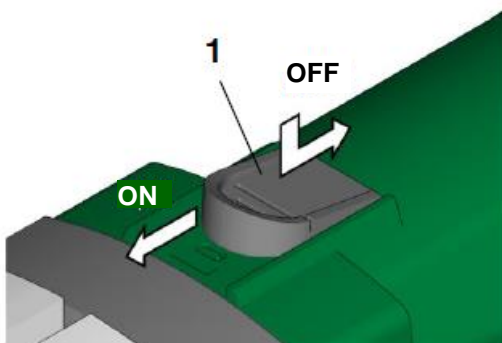

Fig. 6 Switching on/off MB 20/2
- To start the machine, slide the ON switch (1) towards the shaft connection until it locks (see Fig. 6).